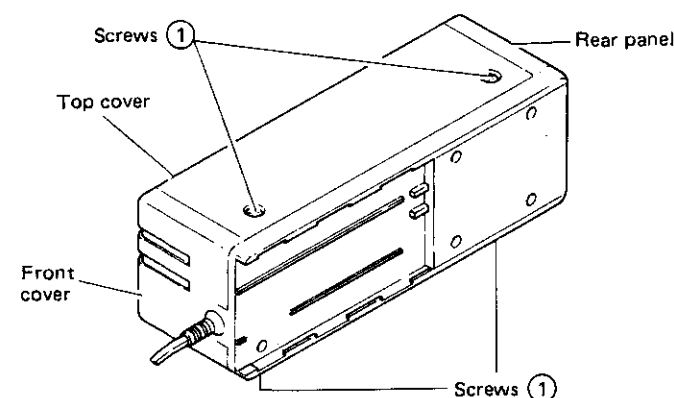

Fig. 2-1
1. Remove 4 screws ① to remove the top cover. (Refer to Fig. 2-1.)